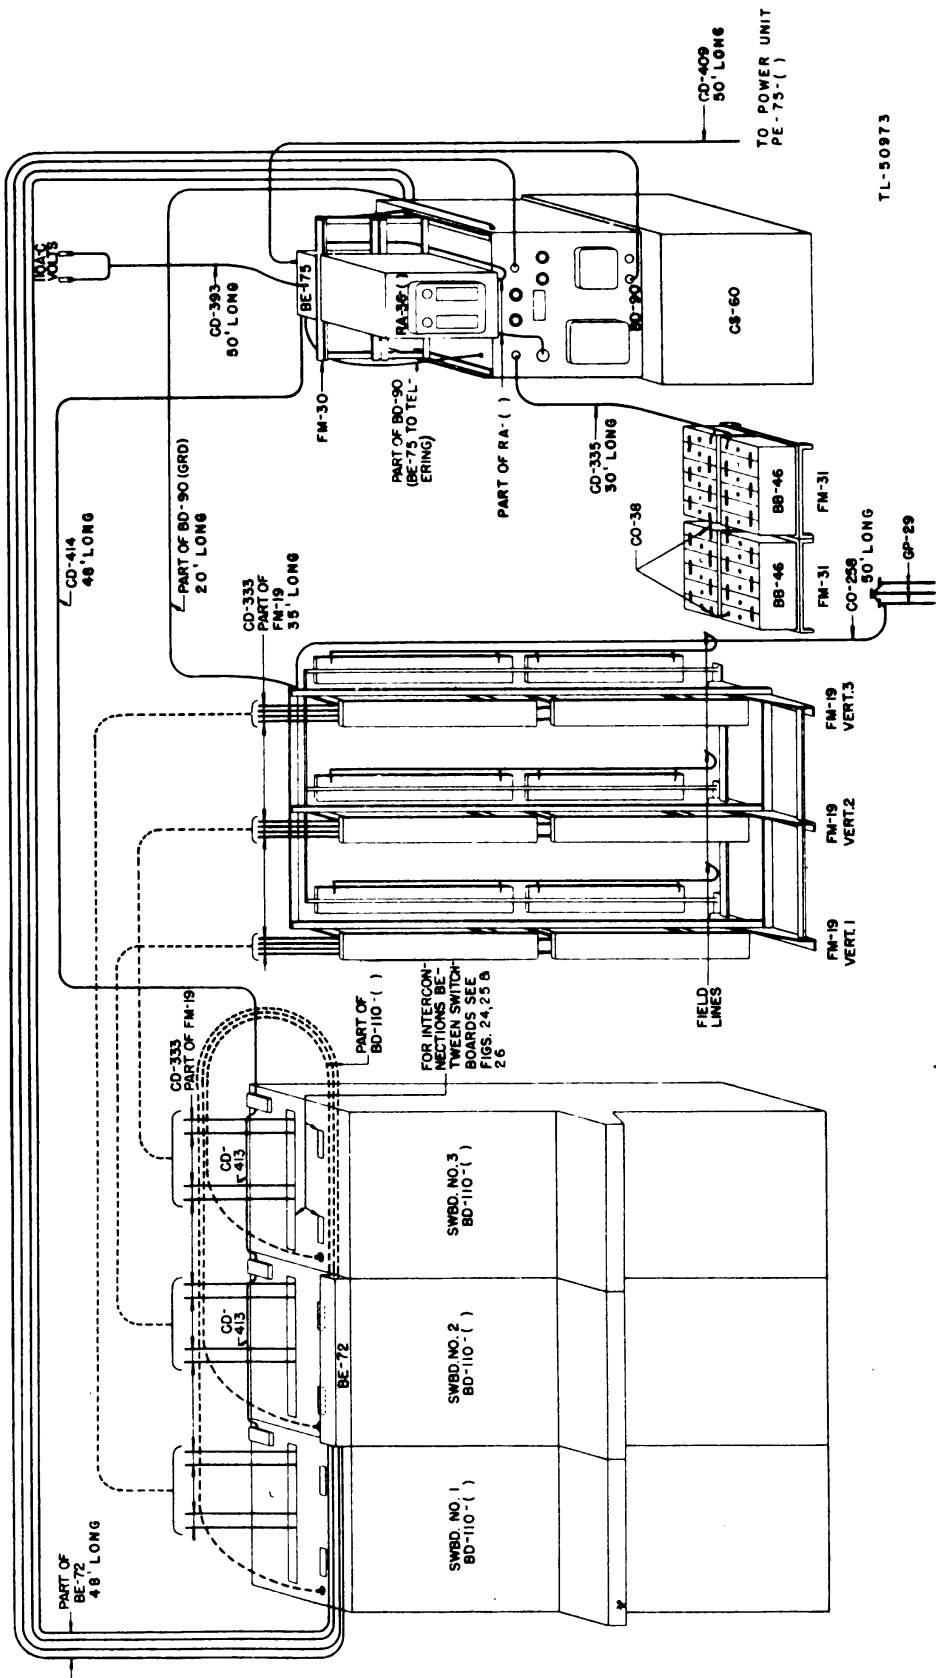
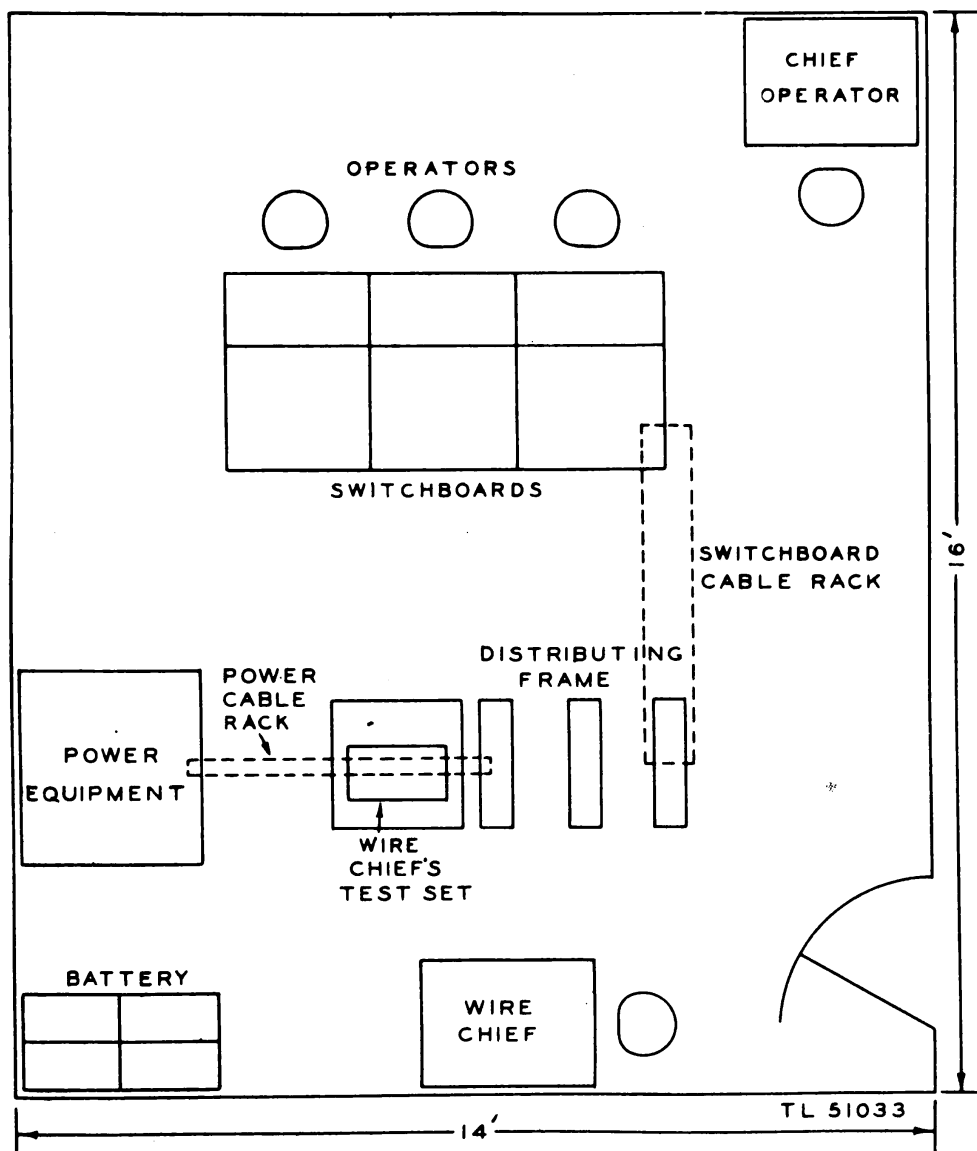
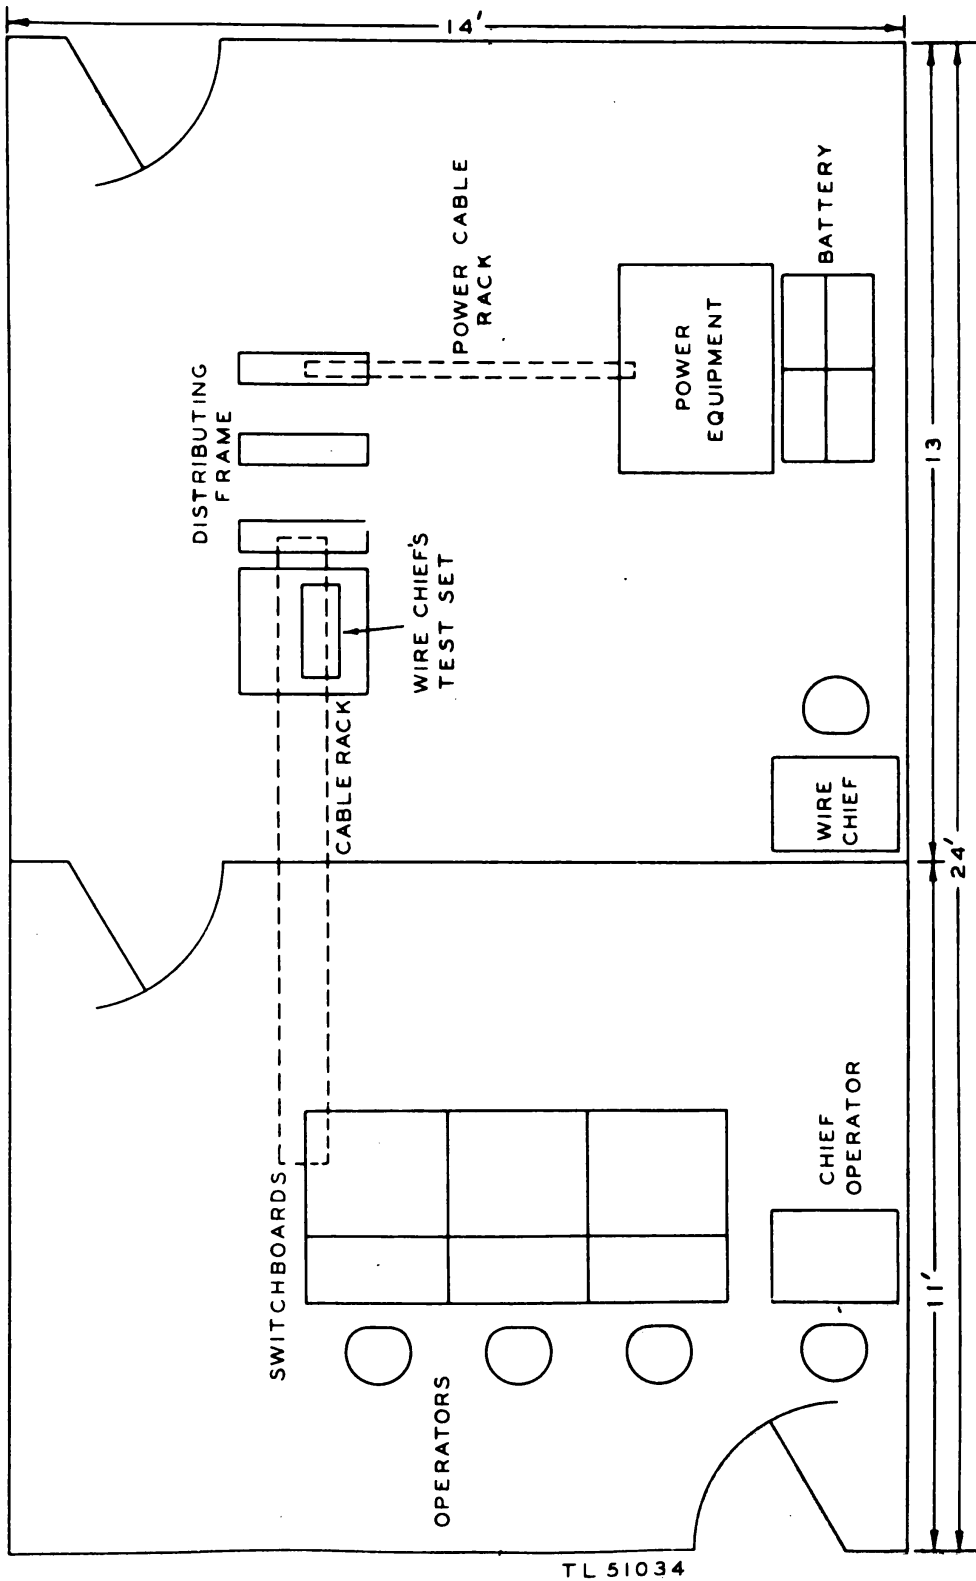

Figure 13. Cording diagram of Telephone Central Office Set TC-10.
Figure 14. Suggested floor plan for Telephone Central Office Set TC-10 in one room.
Figure 15. Suggested floor plan for Telephone Central Office Set TC-10 in two rooms.
(1) The maximum distance between Switchboard BD-110-() and Frame FM-19 is approximately 15 feet (limited by the lengths of cable Racks FM-34).
(2) The maximum distance between Frame FM-19 and Panel BD-90 is approximately 15 feet (limited by the lengths of cable Racks FM-36).
(3) The maximum distance between other items of equipment is limited by the lengths of the connecting cables. These lengths are shown on the cording diagram (fig. 13).
(4) The batteries and Power Units PE-75-() should be installed in an inclosure separate from the switchboard to keep the switchboard room reasonably quiet and free from battery fumes and exhaust fumes.
b. Figures 14 and 15 illustrate two arrangements of Telephone Central Office Set TC-10. Figure 14 shows a suggested floor plan where space is limited. Figure 15 illustrates a preferred arrangement using two rooms. Where a large room is available, the set may be arranged in a manner similar to the set-up in figure 1. The room shown is approximately 25 feet long. Space between the different components and between the equipment and the walls is essential to good maintenance.
9. CONNECTING EQUIPMENT. All connections between units of equipment, except the connections to Cabinet BE-70, are shown on the cording diagram (fig. 13), and are covered in the following subparagraphs. Before making any connections be sure the switches on Panel BD-90, Rectifier RA-36-(), and Cabinet BE-75 are in the OFF position.